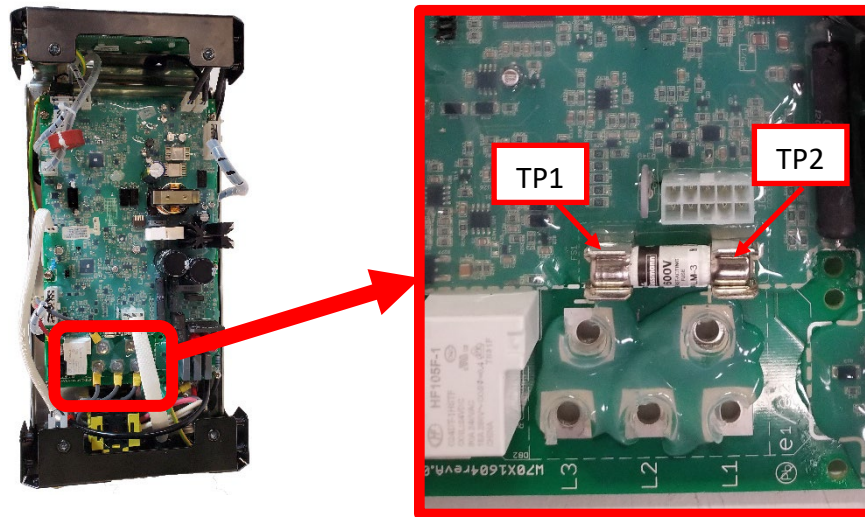

Figure F.2
A.2. Perform the static measurements in Test Table 1, refer to Figure F.2 for test point locations. **NOTE: DO NOT DISCONNECT WIRES FROM THE INPUT POWER BOARD.**